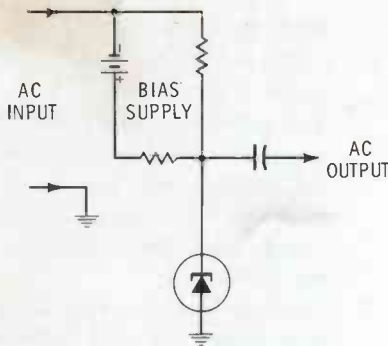

Fig. 4. Tunnel-diode amplifier.
5. With a circuit configuration such as in Fig. 4, the voltage changes across the tunnel diode (produced by the nega-